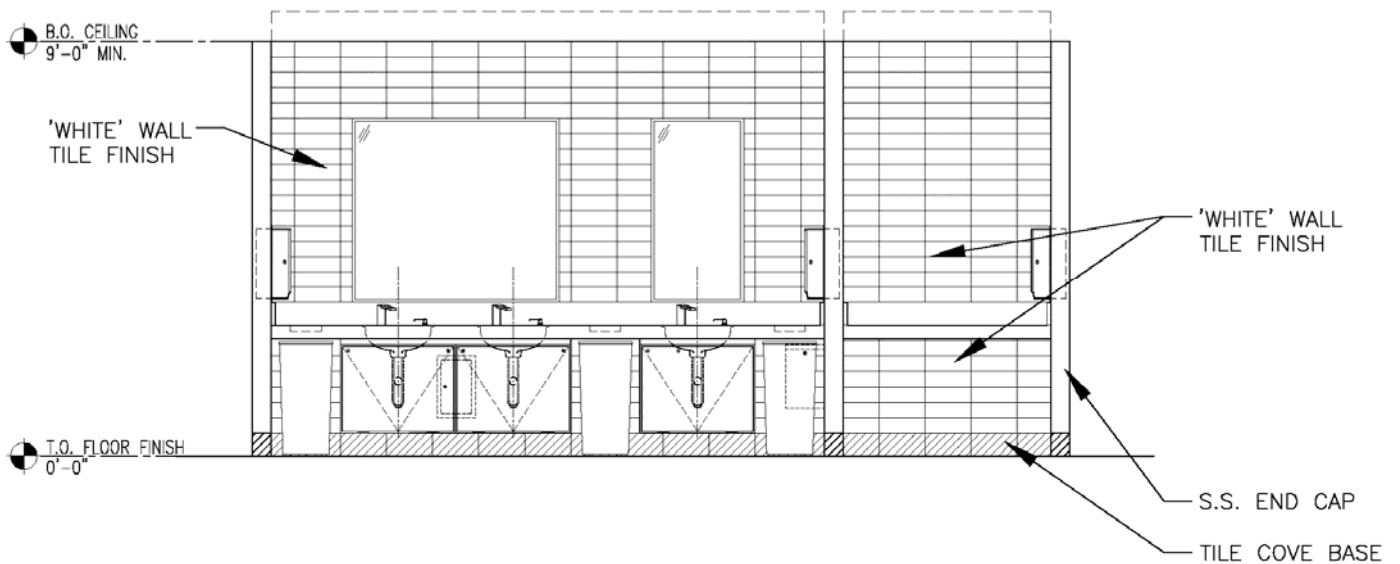

Figure 1.9.2C
- H. In restroom renovations where spatial limitations prohibit *item 1.11.G* above, a minimum two (2) trash drops for every three (3) wash stations will be provided.
- I. Under exceptional circumstances and only when approved by LAWA, one (1) trash drop will be provided for every three (3) wash stations. Individual stainless steel framed mirrors (24"x48") will be provided as shown in *Figure 1.9.2C* in new construction or sized and mounted from top of splash in restroom renovations.